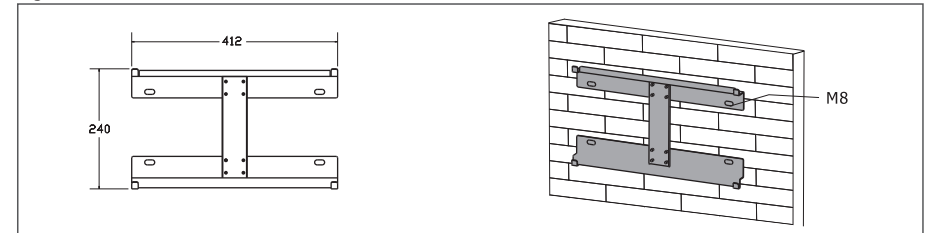

Figure 3.4-1 Install Inverter hanging plate
**Step 1.** Please use the mounting bracket as a template to drill 5 holes in the right positions (10mm in diameter, and 80mm in depth). Use M8 expansion bolts in accessory box and fix the mounting With a 12mm drill bracket onto the wall tightly. The installation of inverter support is shown in Figure 3.4-1.